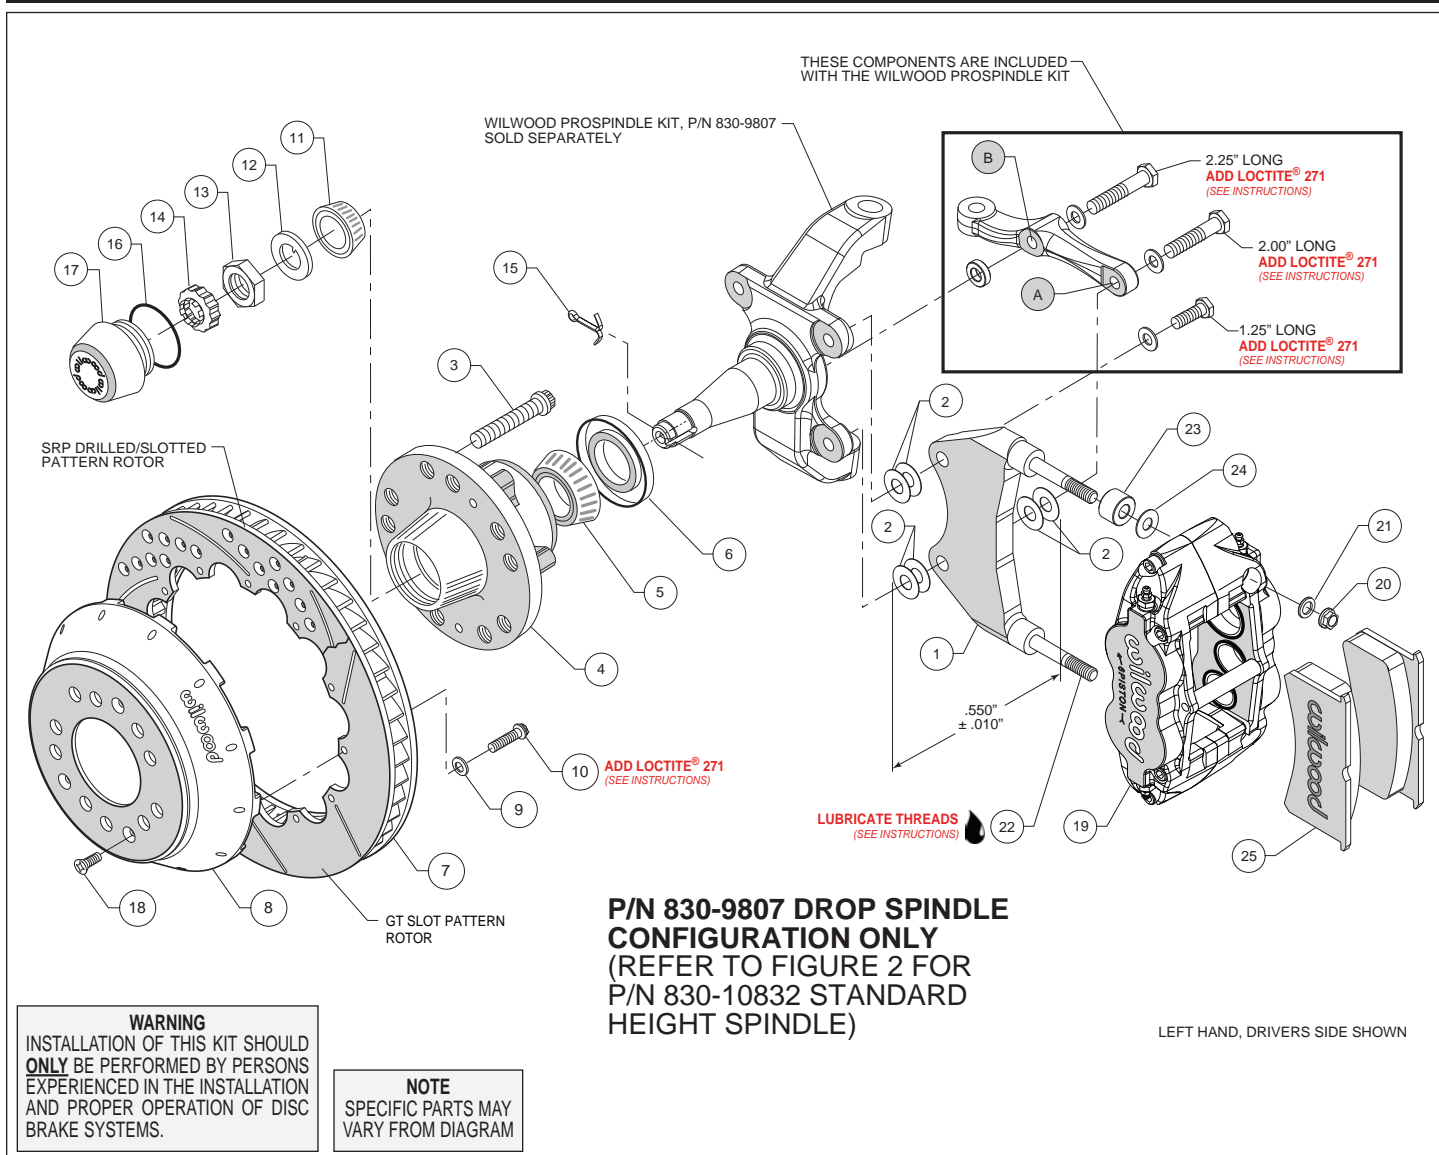
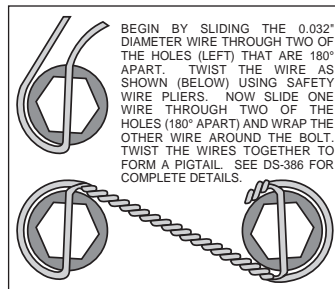

Figure 1. Installation Configuration For Drop Spindle, P/N 830-9807
Figure 4. Safety Wire Diagram
Assembly Instructions (numbers in parenthesis refer to the parts list and Figures 1 or 2 on the preceding pages):
- NOTE:** Each Wilwood ProSpindle kit includes bolts, washers, and a spacer to mount the steering arm and caliper bracket. The various bolts are identified by length in the following instructions and in Figures 1 and 2.
- Orient the bracket as shown in Figure 1 and Photo 1. Install at top spindle hole using 1.25" long bolt and .06" thick washer (from ProSpindle kit), and two .016" thick shims (2) between the bracket and spindle, Figure 1.
- Orient the steering arm, and identify the hole marked 'A', as shown in Figure 1. Install at bottom spindle hole using 2.00" long bolt and .06" thick washer (from ProSpindle kit), two .016" thick shims (2) between the bracket and steering arm, and another two .016" thick shims (2) between the bracket and spindle, Figure 1. The bracket is located between the steering arm and spindle. **NOTE:** The bracket and shim washers must add up to a total thickness of .550" \pm .010", Figure 1.
- Finish attaching the steering arm through the hole marked 'B', as shown in Figure 1. Install using 2.25" long bolt, .06" thick washer, and .25" thick spacer (all from ProSpindle kit), Figure 1.
- Pack the small outer bearing cone (11) with high temperature disc brake bearing grease and install into front of hub (4). Slide the hub assembly onto the spindle. Secure using spindle washer (12) and adjusting nut (13), Photo 5. Bearing adjustment: Tighten the nut while turning the hub. When there is a slight bind on the bearings, they are seated correctly. Back the nut off about 1/6 to 1/4 of a turn, or sufficiently to allow .001" to .007" end play. **WARNING:** Failure to back off adjusting nut could cause bearing to run hot and be damaged, which could cause the wheel to lock or come off. Install spindle nut retainer (14) and cotter pin (15).
- Screw dust cap (17) into hub (4). Friction created by the o-ring (16) on the dust cap keeps it from unscrewing.
- Orient the rotor (7) and the hat (8) as shown in Figures 1 or 2, and Photo 6. Attach rotor to hat using bolts (10) and washers (9). Using an alternating sequence, apply red *Loctite*[®] 271 to the threads, and torque to 155 **in-lbs**. For an added measure of security, the bolts may be safety wired using standard 0.032 inch diameter stainless steel safety wire as shown in Figure 4. Refer to Wilwood's data sheet DS-386 (available at www.wilwood.com/Pdf/DataSheets/ds386.pdf) for complete safety wire installation instructions.
- Slide the hat/rotor assembly (8 and 7) onto the hub (4) taking care to align the small countersunk holes in the hat with the small threaded holes in the hub. **NOTE:** The hat must fit flush against the hub face or excessive rotor run out may result. Install three flat head screws (18) through the small holes in the hat (8), and torque to 85 **in-lb**.
- NOTE:** This kit contains distinct right and left hand calipers that must be mounted in a specific direction, as described below. Lubricate the caliper mounting studs (22) with lightweight oil. Initially place one .035" thick shim (24), and spacer (23) on each stud as shown in Figure 1 or 2, and Photo 7. Mount the caliper (19) onto the bracket (1) using lock nuts (20) and washers (21), Figure 1 or 2. Ensure that the caliper is mounted so that the largest pistons are at the rotor exit end of the caliper, in relation to the direction of rotor rotation. Temporarily tighten the lock nuts and view the rotor through the top opening of the caliper. The rotor should be centered in the caliper, Photo 8. If not, proceed as follows:
- For the lower bracket mount bolt, if a shim was added between the bracket and spindle, then a shim must be removed between the steering arm and bracket, such that the total thickness of bracket and shims remain equal to $.550 \pm .010$ ", Figure 1.